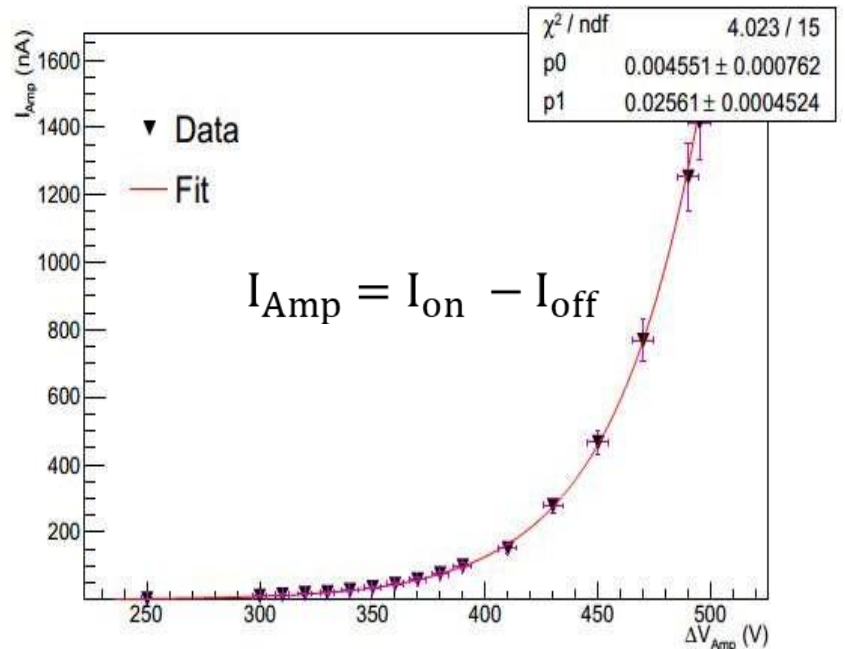

Figure 2
- Exponential production of secondary electrons I_{Amp} (nA) in amplification region (Figure 2).